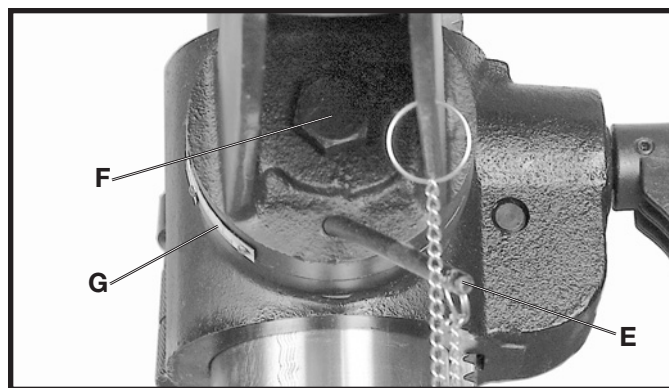

Fig. 24
3. The table can be tilted right or left by pulling out and removing table alignment pin (E) Fig. 24. Loosen table locking bolt (F), tilt table to the desired angle and tighten bolt (F). When returning table to the level position (90 degrees to the spindle), replace table alignment pin (E) and tighten bolt (F).
4. A scale (G) Fig. 24, and pointer is provided on the table bracket to indicate the degree of tilt.